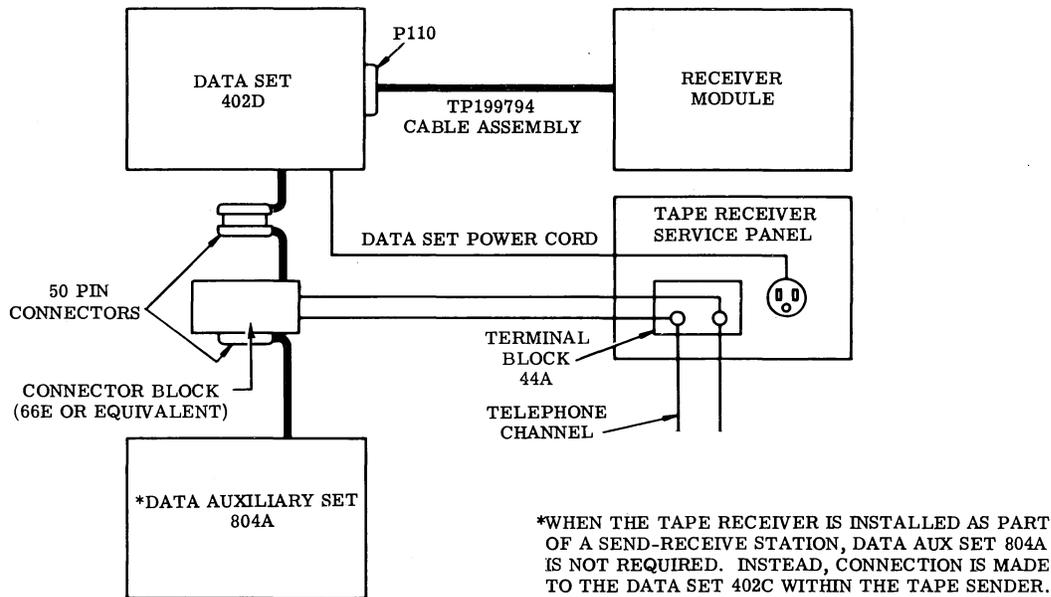

Figure 3 - Data Set Connections (Receive Only)
(5) Mount a 44A telephone terminal block backboard, and terminal board on the electrical service panel at the rear of the cabinet if required. Two mounting holes on the left side of the cabinet (looking from the rear) are provided. (Refer to the data set instruction material for the type of terminal block required.)
(6) Remove the three screws that secure the panel at the center of the cabinet, remove the panel and place the data auxiliary set 804A on the shelf provided. Replace the panel.
(7) Make connections between the data set, data auxiliary set and telephone terminal block and connector block as shown in Figure 3. Refer to the instruction material supplied with the data set when choosing or wiring the connector block.
(8) Replace rear cabinet cover.